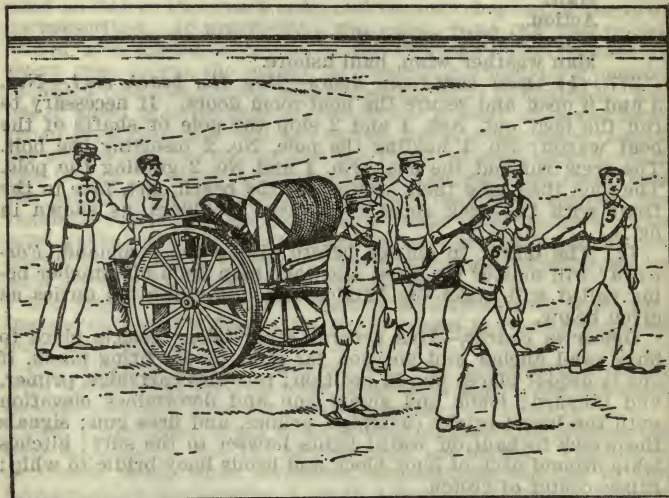

FIG. 1.—Man the beach cart.
377. (1) *Open boat-room doors—Man the beach cart.*—Nos. 5 and 6 open and secure the boat-room doors. If necessary to run the boat out, Nos. 1 and 2 ship the pole or shafts of the boat wagon; No. 1 holding the pole, No. 2 inserting the bolt. The crew run out the boat, No. 1 and No. 2 guiding the pole. The men then take their stations at the beach cart, face to the front with the drag ropes over their shoulders, as shown in fig. 1.
(2) The officer in charge before giving the command, *Forward!* will muster the crew, and each man upon his number being called will make the hand salute and recite his duties as given below.